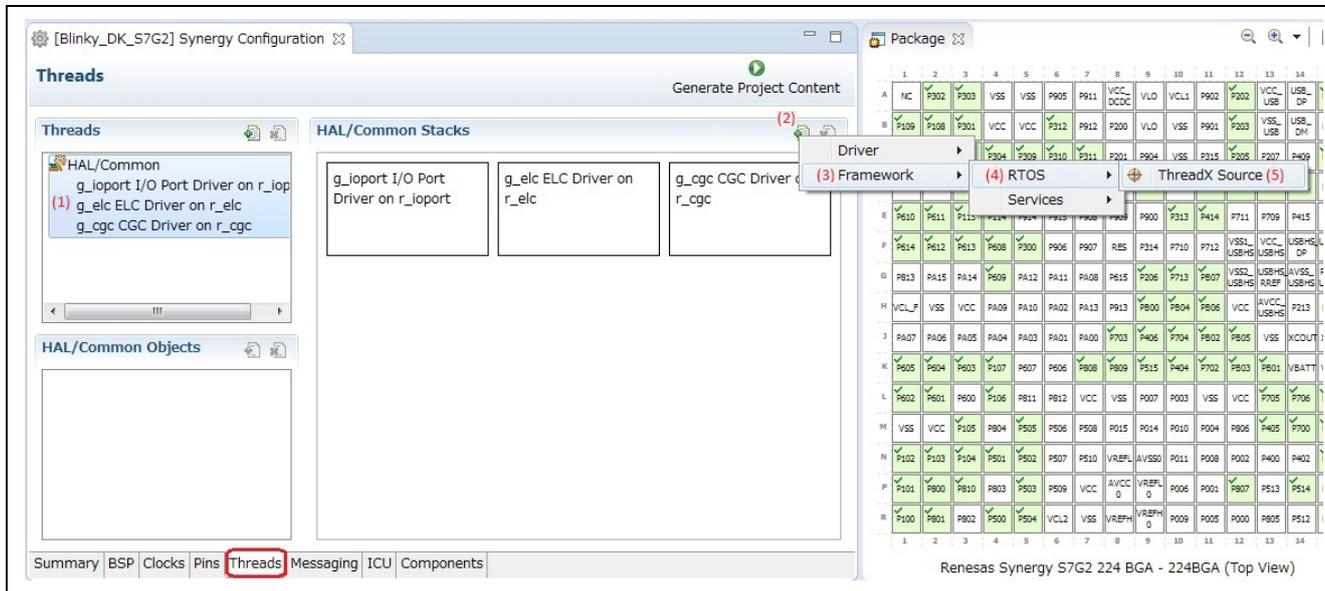
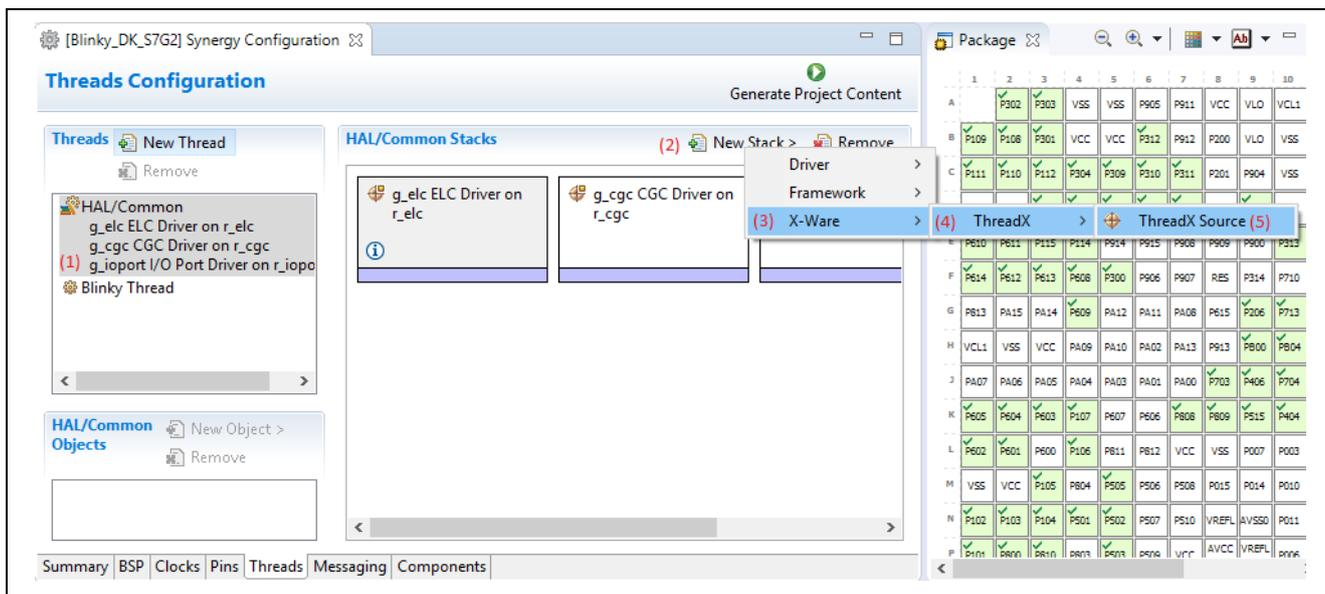

Figure 8 Registering source files for ThreadX (v5.3.1 and earlier versions of the e² studio)
Figure 9 Registering source files for ThreadX (v5.3.1 and later versions of e² studio)
1. Register the source code files for ThreadX in the e² studio by using the configuration editor (Figure 8 and Figure 9) for the e² studio version installed.
2. Open the **Threads** tab page, specify items (1) to (5) in order, and register the source files.